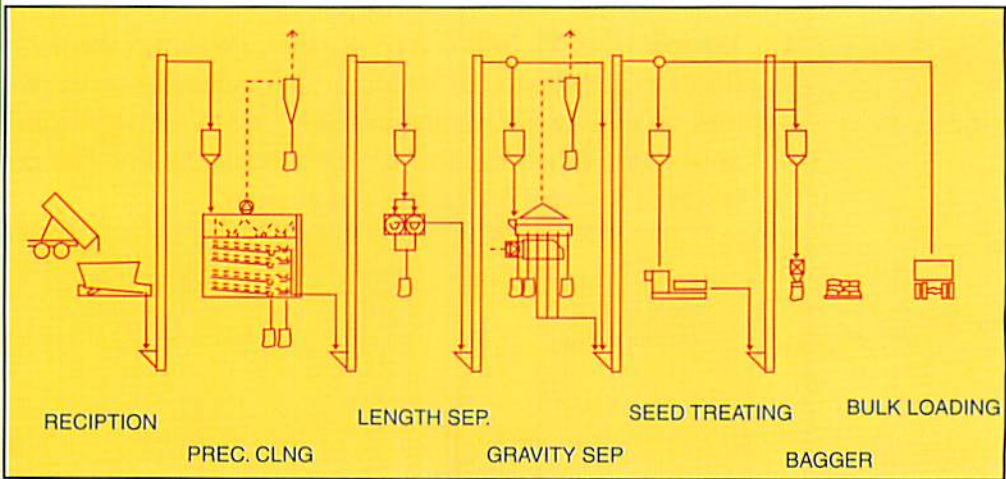

Fig. 8. Horizontal layout of a processing plant
2. **Horizontal** (Fig. 8): In this type of plant, all the machines are laid down in the same floor. Seeds are elevated into surge bins above a particular machine, pass through that machine by gravity and then re-elevated for the next cleaning operation. This type of arrangement is less costly to construct and easier to supervise.